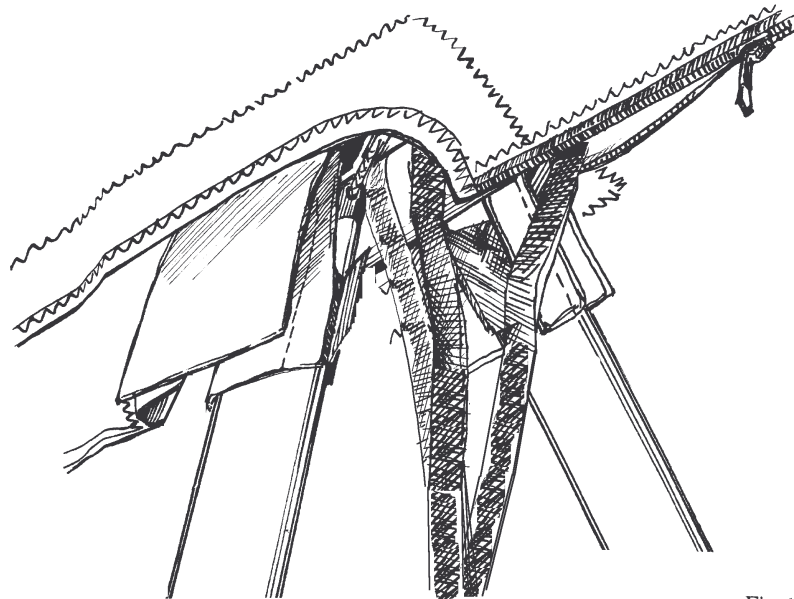

Fig. 15
4.1.6. Unzip the bottom surface, put out the hangpoint spreader bar from the tower on the keel tube and orientate the paddings sewed on the sail so that they protect the hardware fittings of the uprights from the contact with sail (Fig. 15). Zip the zipper.